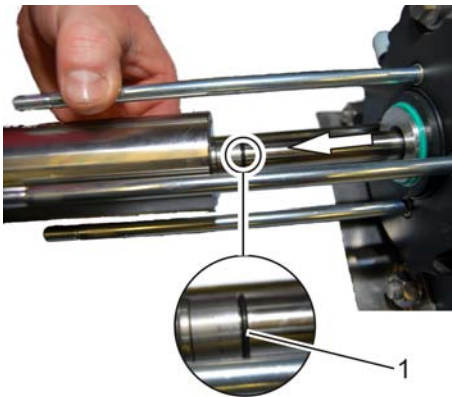

Fig. 84: O-ring
3. ➔ Slide O-ring (Fig. 84/1) on piston rod into groove in front of safety sleeve.